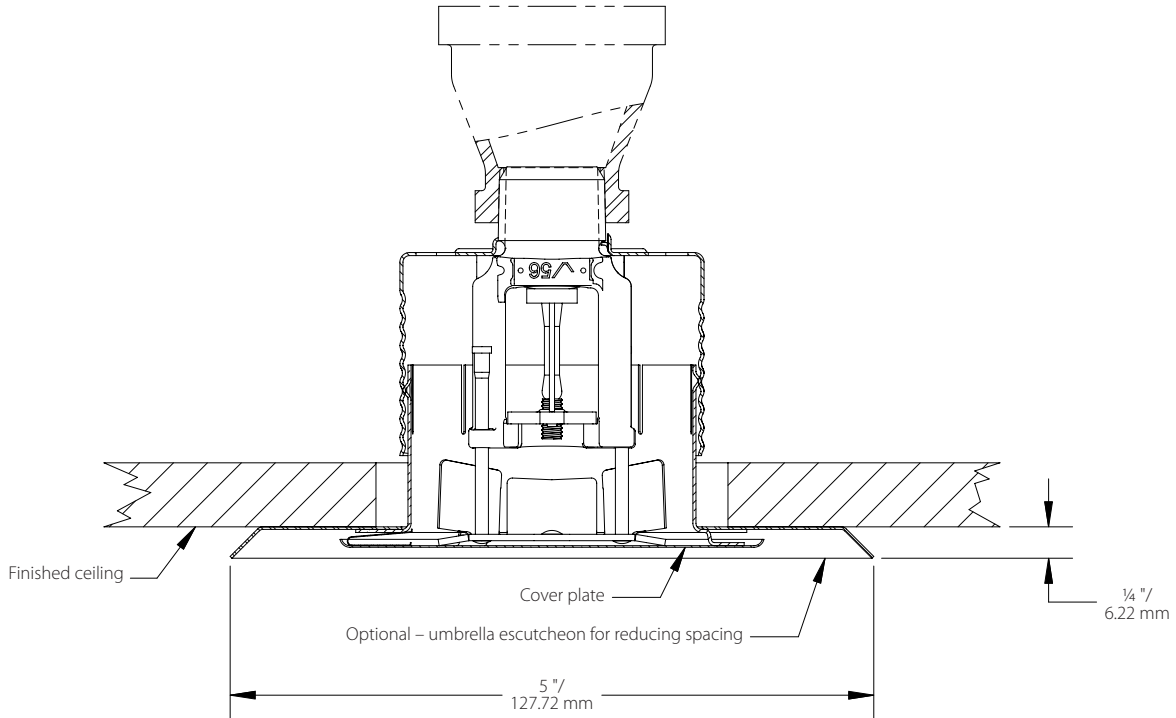

Figure 2c: V5648
- To install, place umbrella escutcheon over the finished cover plate assembly, oriented with the flat surface of the umbrella escutcheon flush with the finished ceiling. See figure 2c.
⁷ Concealed Sprinkler can be reduced to 5.0 ft (1.5 m) when utilizing optional Cold Solder Umbrella Escutcheon in Figure 2c